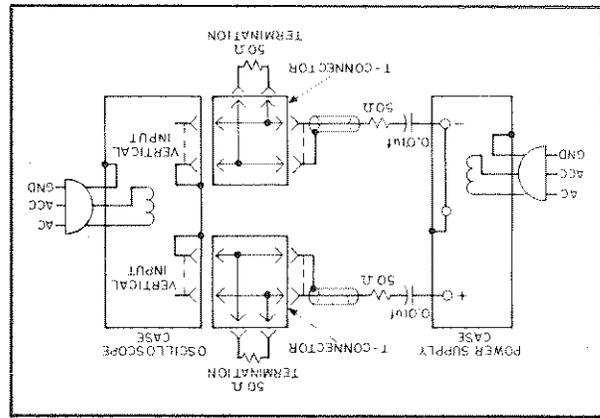

Figure 5-5. CV Noise Spike Test Setup
- As shown in Figure 5-5, two coax cables, must be substituted for the shielded two-wire cable.
The circuit of Figure 5-5 can also be used for the normal measurement of low frequency ripple and noise; simply remove the four terminating resistors and the blocking capacitors and substitute a higher gain vertical plug-in in place of the wide-band plug-in required for spike measurements. Notice that with these changes, Figure 5-5 becomes a two-cable version of Figure 5-4C.